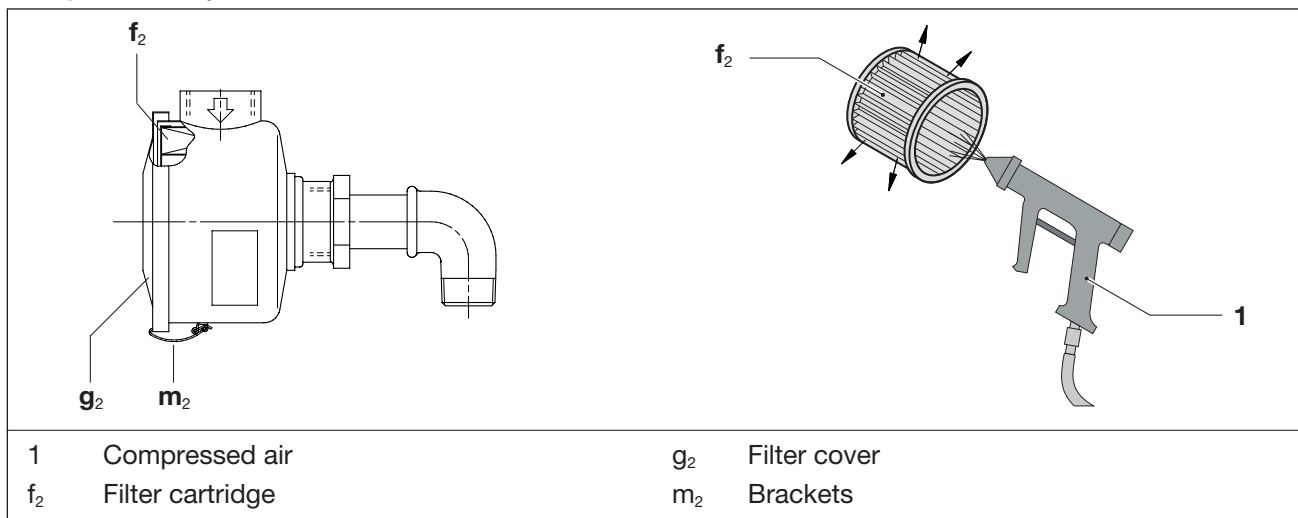

Fig. 8 Intake filter
- Release the brackets (Fig. 8/m₂) on the filter cover (Fig. 8/g₂).
- Remove the filter cartridge (Fig. 8/f₂) from the filter and clean or replace.
- Re-insert the filter cartridge in the filter and fasten the filter cover (Fig. 8/g₂) with the brackets (Fig. 8/m₂).